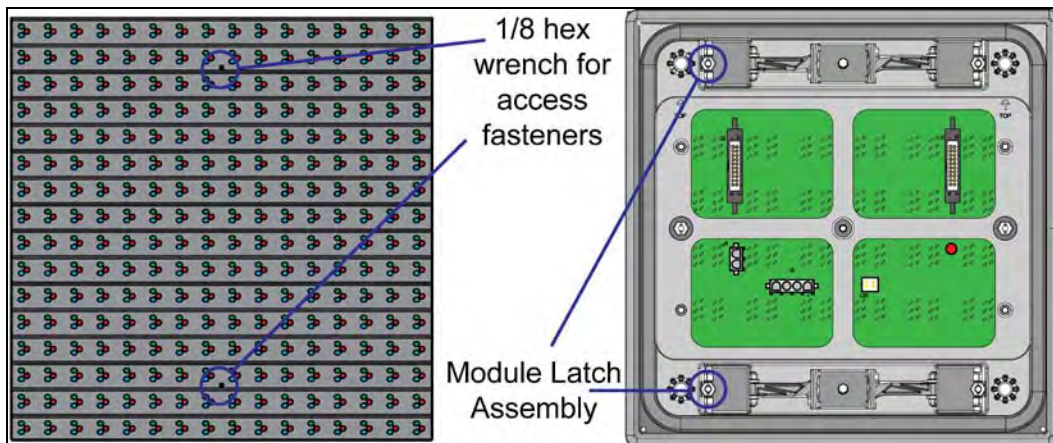

Figure 23: Module Access Locations
2. Locate the latch access fasteners shown in **Figure 23** on the module.
4. Disconnect the two ribbon cables from the module by spreading the tabs on the sides and then lifting the cable head from the jack. Note how they are connected to the back. A generic display module is shown in **Figure 23**.